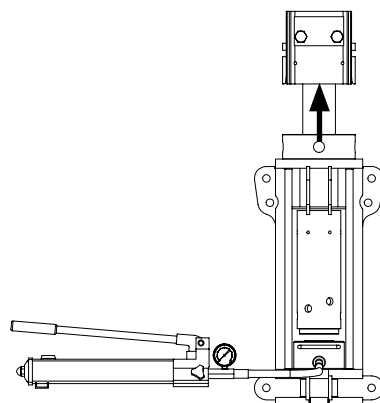

Fig. 23
7. Open drain valve and drain the hydraulic cylinder. (Fig. 23) → Spindle nut is relieved.